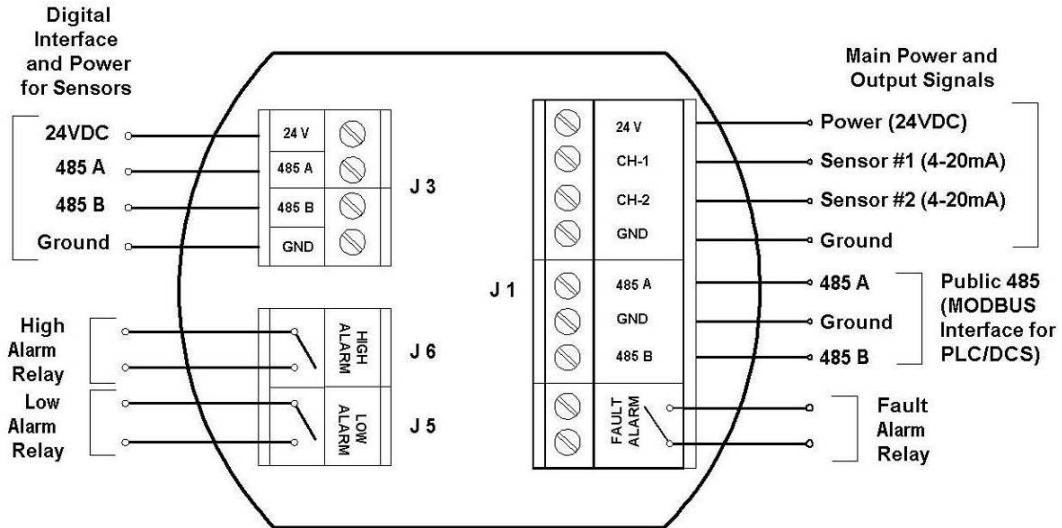
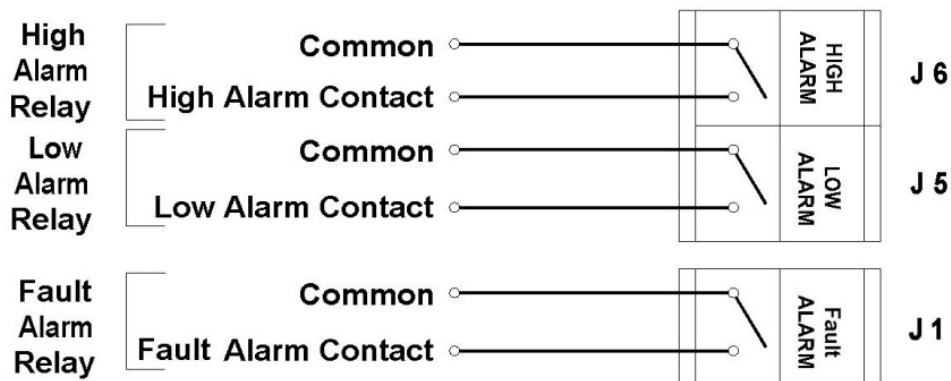

Figure 2-4 Electronics Module for **iTRANS 2** (Main Unit)
Figure 4-1 Alarm Relay Connectors J6, J5 and J1
The electronics module of the iTRANS-2 gas monitor contains connectors and jumpers for wiring and configuring the device. The electronics module for a main iTRANS-2 unit is shown in Figure 2-4. The electronics module for a remote unit is shown in
To connect the **iTRANS-2** control wires to the three relay terminals on the relay board, wire the unit to the connectors shown in Figure 2-4. The low alarm relay is activated when the low alarm threshold is met. This is a non-latching, Normally Open (NO) contact. The high alarm relay is activated when the high alarm threshold is met. This is a non-latching, Normally Open (NO) contact. The fault alarm relay is activated upon power-up of the **iTRANS-2**. When the fault condition is met, the circuit opens. This is an Electronically closed (NC) contact. See Figure 4-1 for relay wiring.